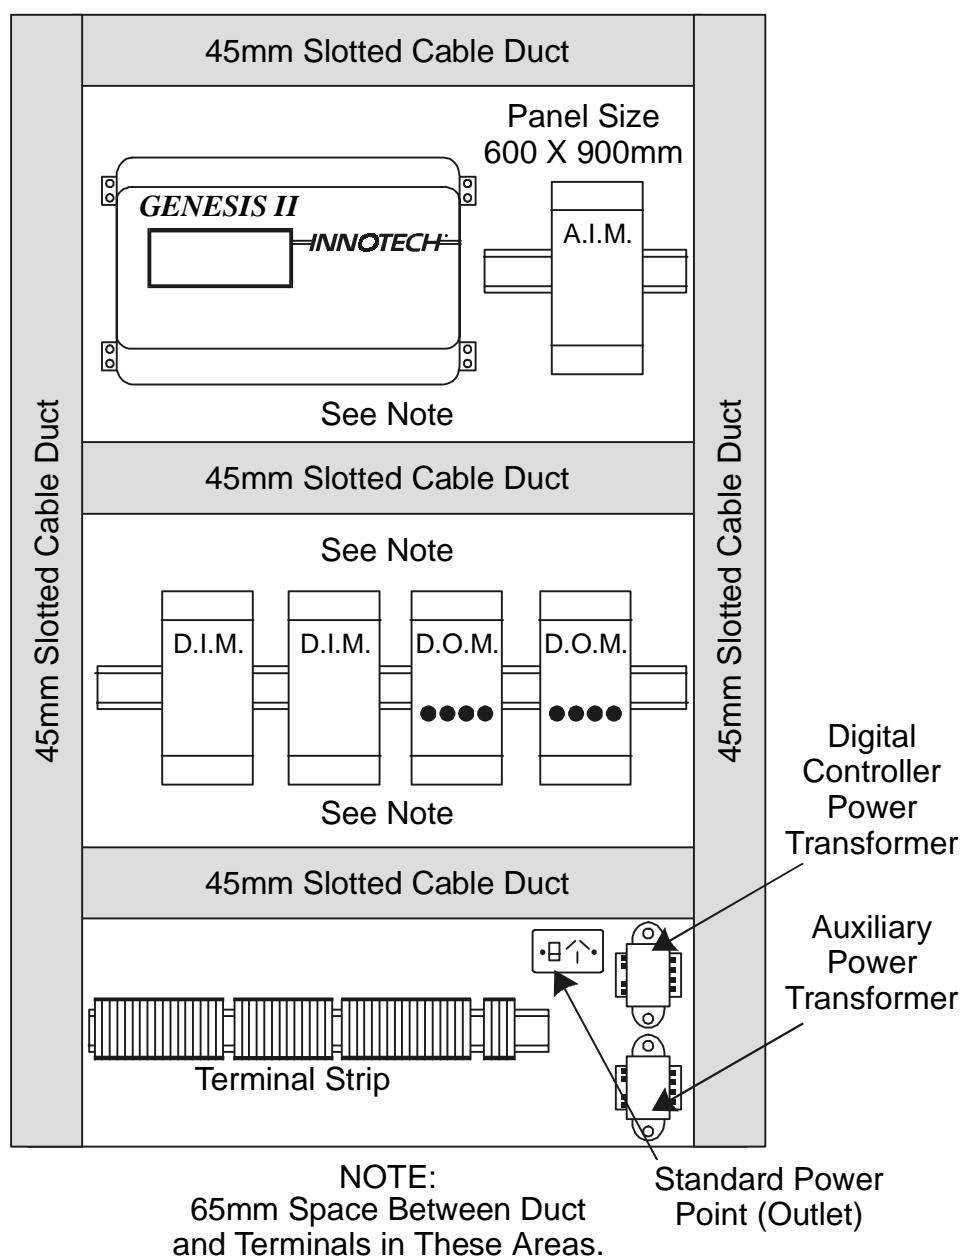

Figure 2-8. Typical Enclosure Layout.
Figure 2-8 shows an example of a typical Genesis System layout in an equipment enclosure.
- Install LEMs as close as possible to the Digital Controller and side-by-side on the DIN rail. Refer to Paragraph 2-3 and Figure 2-8.